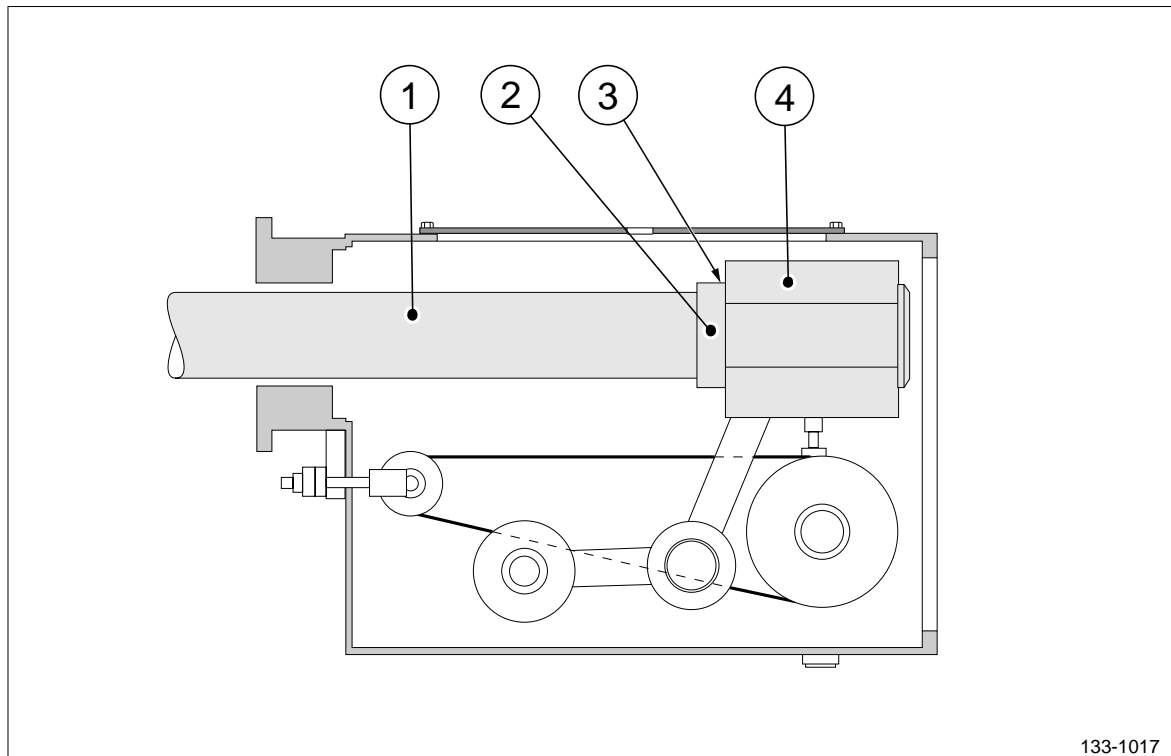

Figure 1 The OD-box - inside view.
- 0 = Zero thrust (pos 4, figure 1)
Inspect and record the axial play of the OD-box ring according to figure 1. See the table “Acceptance criteria for axial play” for maximum and minimum values.